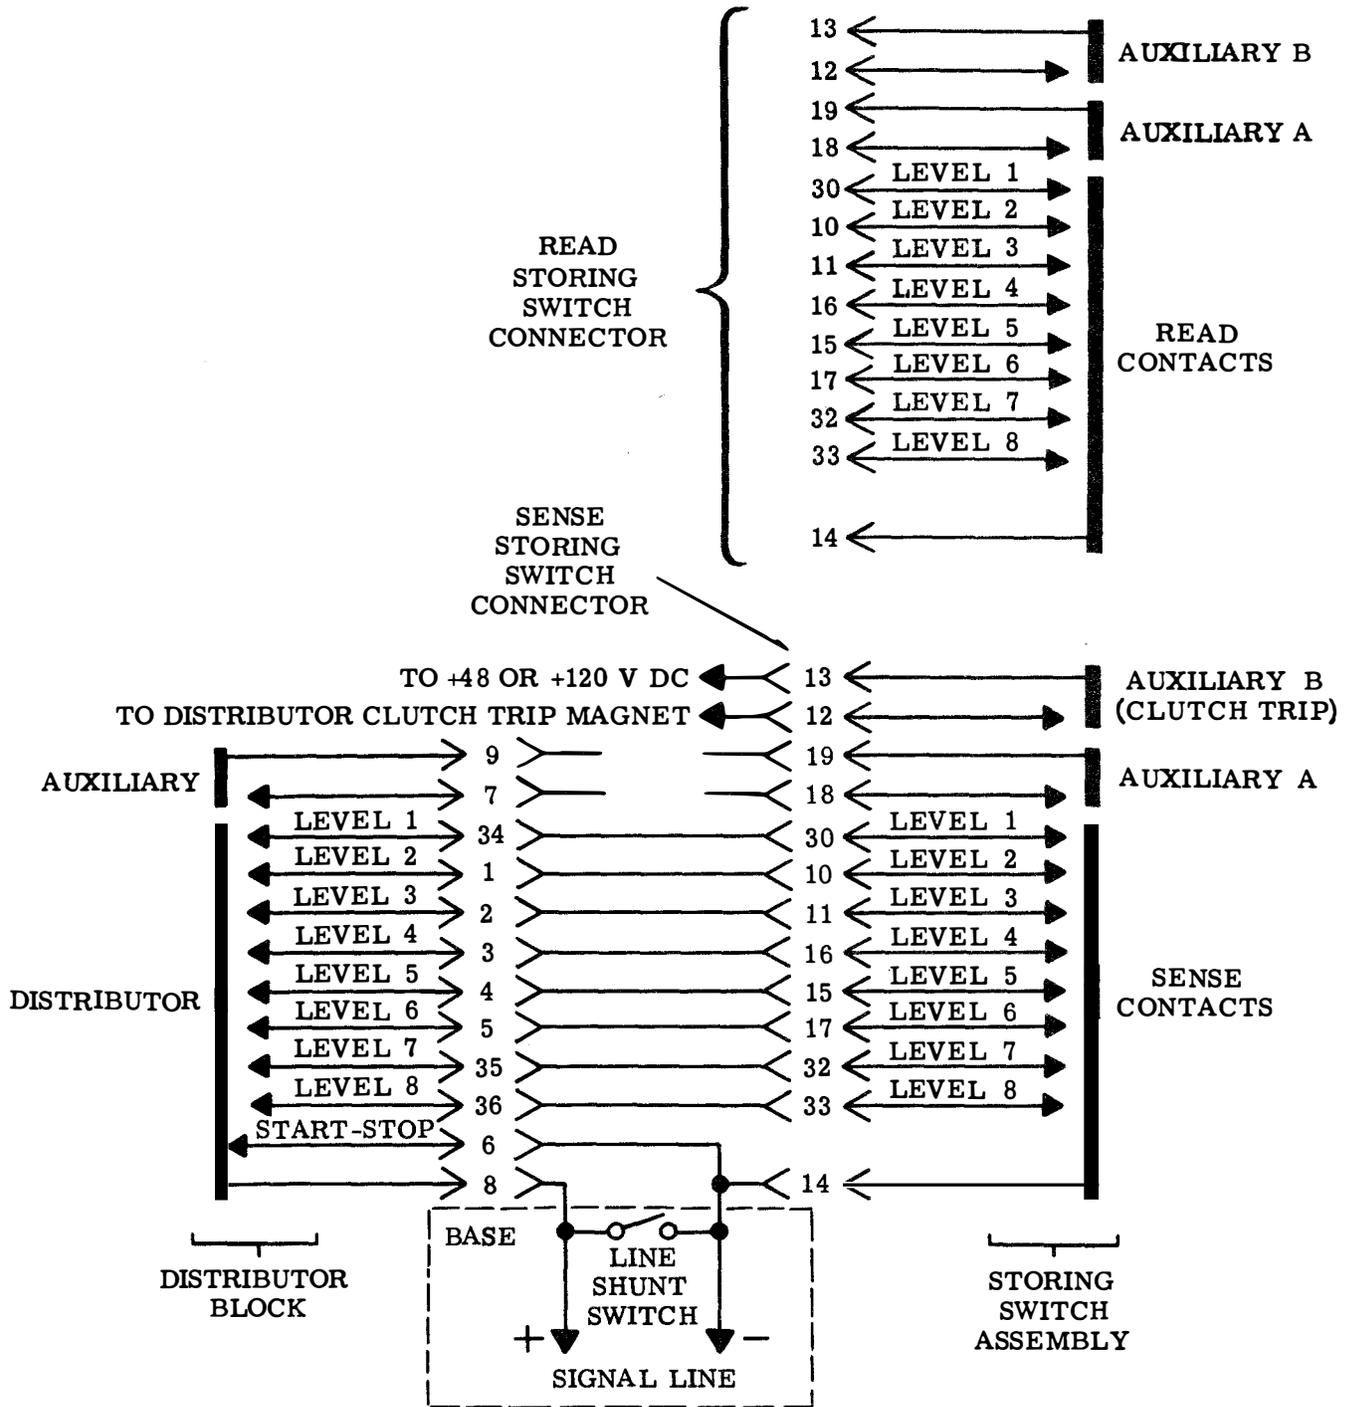

Figure 16 - Signal Circuit
2.06 The signal circuit consists of the sense and distributor contacts in series. This connection must be made externally. See Figure 16.
8.02 At approximately 250 degrees of sensing cam sleeve rotation, the pusher levers are stripped. As the sensing cam sleeve approaches the end of the cycle, the auxiliary A contact (on the sense storing switch) opens (Figure 16).